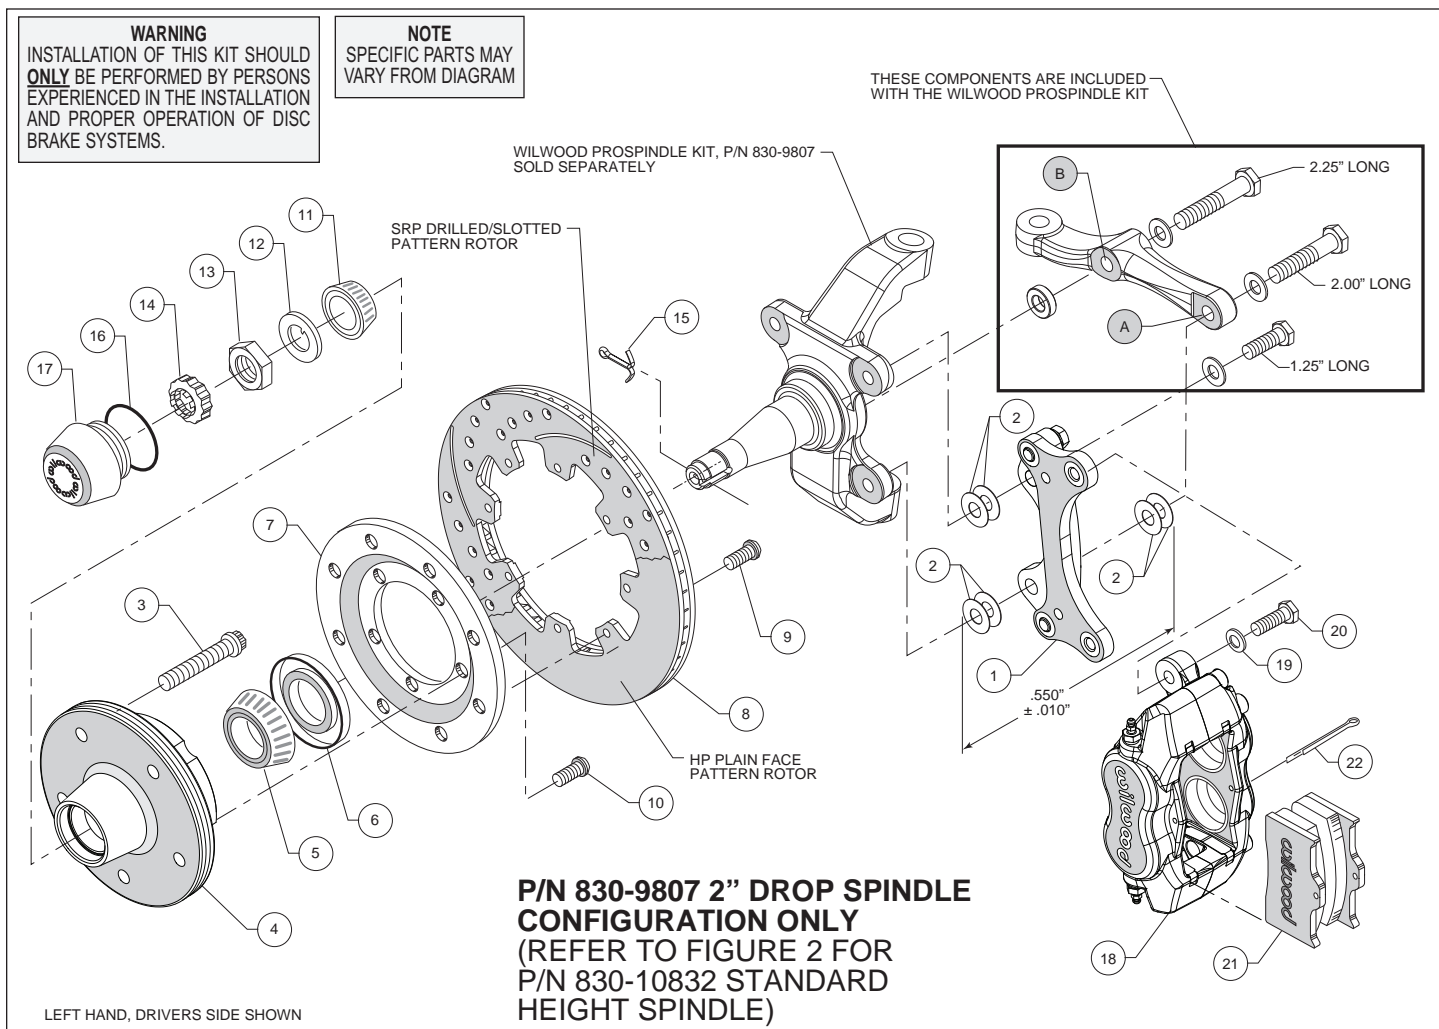

Figure 1. Installation Configuration for Drop Spindle, P/N 830-9807
Assembly Instructions (numbers in parenthesis refer to the parts list and Figures 1 and 2 on the preceding pages):
•**NOTE:** Each Wilwood ProSpindle kit includes bolts, washers, and a spacer to mount the steering arm and caliper bracket. The various bolts are identified by length in the following instructions and in Figures 1 and 2.
- Orient the bracket as shown in Figure 1 and Photo 1. Install at top spindle hole using 1.25" long bolt and .06" thick washer (from ProSpindle kit), and two .016" thick shims (2) between the bracket and spindle, Figure 1.
- Orient the steering arm, and identify the hole marked 'A', as shown in Figure 1. Install at bottom spindle hole using 2.00" long bolt, .06" thick washer (from ProSpindle kit), two .016" thick shims (2) between the steering arm and the bracket, and another two more .016" thick shims (2) between the bracket and spindle, Figure 1. The bracket is located between the steering arm and spindle. **NOTE:** The bracket and shim washers must add up to a total thickness of .550" \pm .010", Figure 1.
- Finish attaching the steering arm through the hole marked 'B', as shown in Figure 1. Install using 2.25" long bolt, .06" thick washer, and .25" thick spacer (all from ProSpindle kit), Figure 1.
- Pack the large inner bearing cone (5) with high temperature disc brake bearing grease (available from your local auto parts store) and install into the backside of the hub (4), Photo 4.
- Install the grease seal (6) by pressing into the backside of the hub (4), flush with the end of the hub, Photo 4.
- Orient the rotor (8) and the rotor adapter (7) as shown in Figure 1 or 2 and Photo 5. Attach the rotor to the adapter using bolts (9). Using an alternating sequence, apply red *Loctite*® 271 to the threads, and torque to 25 ft-lb.
- Mount the adapter/rotor assembly (7 and 8) to the hub (4) using bolts (10), as shown in Figure 1 or 2 and Photo 6. Using an alternating sequence, apply red *Loctite*® 271 to the threads, and torque to 45 ft-lb.
- Pack the small outer bearing cone (11) with high temperature disc brake bearing grease and install into front of hub (4), Photo 7. Slide the hub/rotor onto the spindle. Secure using spindle washer (12) and adjusting nut (13). Bearing adjustment: Tighten the nut while turning the hub. When there is a slight bind on the bearings, they are seated correctly. Back the nut off about 1/6 to 1/4 of a turn, or sufficiently to allow .001" to .007" end play. **WARNING:** Failure to back off adjusting nut could cause bearing to run hot and be damaged, which could cause the wheel to lock or come off. Install spindle nut retainer (14) and new cotter pin (15).
- Screw dust cap (17) into hub (4), Photo 8. Friction created by the o-ring (16) on the dust cap keeps it from unscrewing. **NOTE:** The O.D. of the existing OEM spindle washer may be larger than the I.D. of the dust cap not allowing it to seat against the hub face. Therefore, use the spindle washer (12) supplied with the kit instead of the OEM washer.
- NOTE:** Please reference the caution statement at the beginning of the assembly instructions. Mount the caliper (18) onto the caliper bracket (1) using washers (19), and bolts (20) as shown in Figure 1 or 2. Temporarily tighten the mounting bolts and view the rotor (8) through the top opening of the caliper (18). The rotor should be centered in the caliper, Photo 9. If not, proceed as follows:
- Adjust by adding or subtracting shims (2) between the bracket and the spindle. Always use the same amount of shims on each of the two bolts between bracket and spindle.
- For the lower bracket mount bolt, if a shim was added between the bracket and spindle, then a shim must be removed between the steering arm and bracket, such that the total thickness of bracket and shims remain equal to $.550 \pm .010"$, Figure 1.